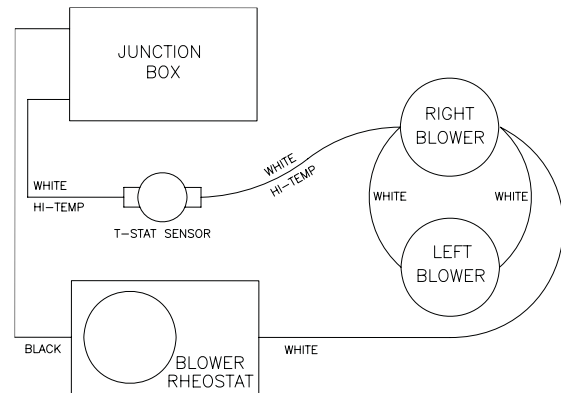

Figure 27a - Blower Wiring Diagram
3. The junction box cover has a factory installed “romex” style strain relief connector. After connecting the wires, route the wire leads through this connector. Refer to the wiring diagram in Figure 27a.